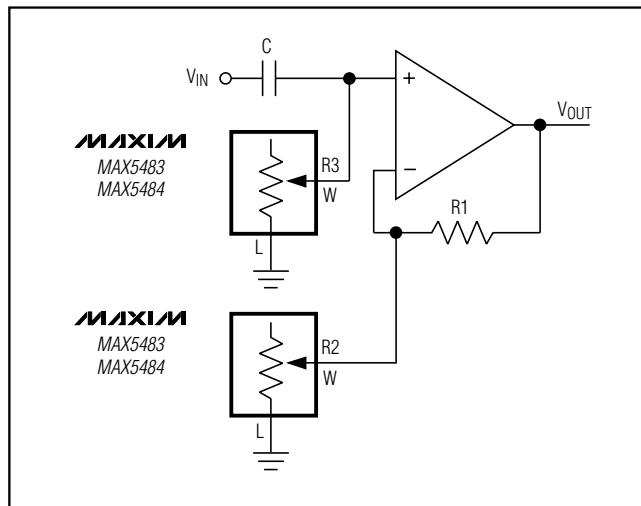

Figure 12. Programmable Filter
Figure 12 shows the configuration for a 1st-order programmable filter using two variable resistors. Adjust R2 for the gain and adjust R3 for the cutoff frequency. Use the following equations to estimate the gain (G) and the 3dB cutoff frequency (f_C):